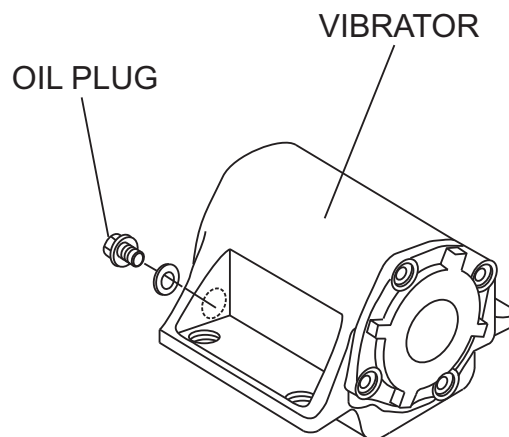

Figure 9. Vibrator Oil Plug
2. Check vibrator oil level by removing the oil plug (vibrator oil gauge) as shown in Figure 9. The oil level should be up to the oil plug. The vibrator holds 140 cc (approximately 0.3 pint). If oil is required, replace using only SAE10W-30 motor oil.